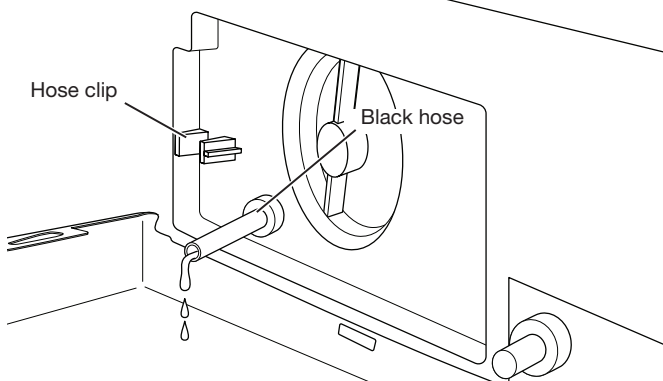

Figure 2
2. Place a broad, flat container beneath the drain pump filter to collect the drain water. Release the black hose from the hose clip, remove the plug, and drain the hose into the container (see Figure 2). Empty the container. Repeat this procedure if necessary until all the water has drained. Make sure that the black hose is completely dry, replace the plug, and secure the hose in the clip.